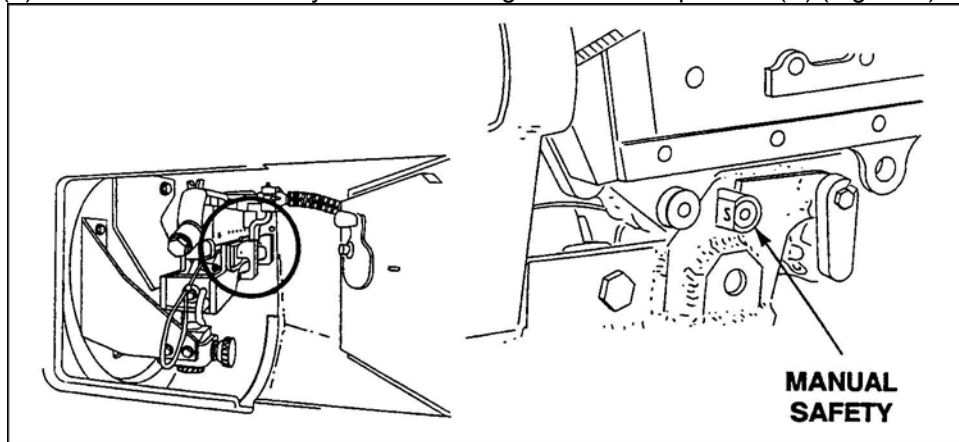

Figure 6. M240C manual safety.
- (1) Move the ARM-SAFE-RESET switch on the SCB to RESET, then to SAFE.
- (2) Move the turret drive system switch on the SCB to OFF.
- (3) Open the M240C coaxial machine gun access doors.
- (4) Pull the charger handle to the rear, locking the bolt in the rear position.
- (5) Push the manual safety switch to the right to the safe position (S) (Figure 6).